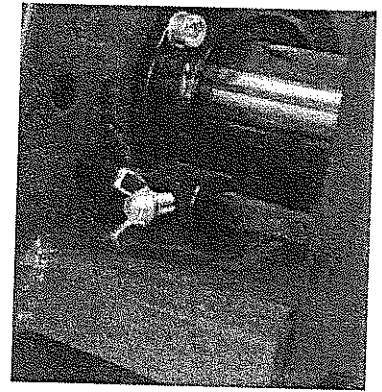

Fig. 8 Log pusher adjustment system
- Unscrew the butterfly screw of the adjuster system (fig. 8) without removing it.